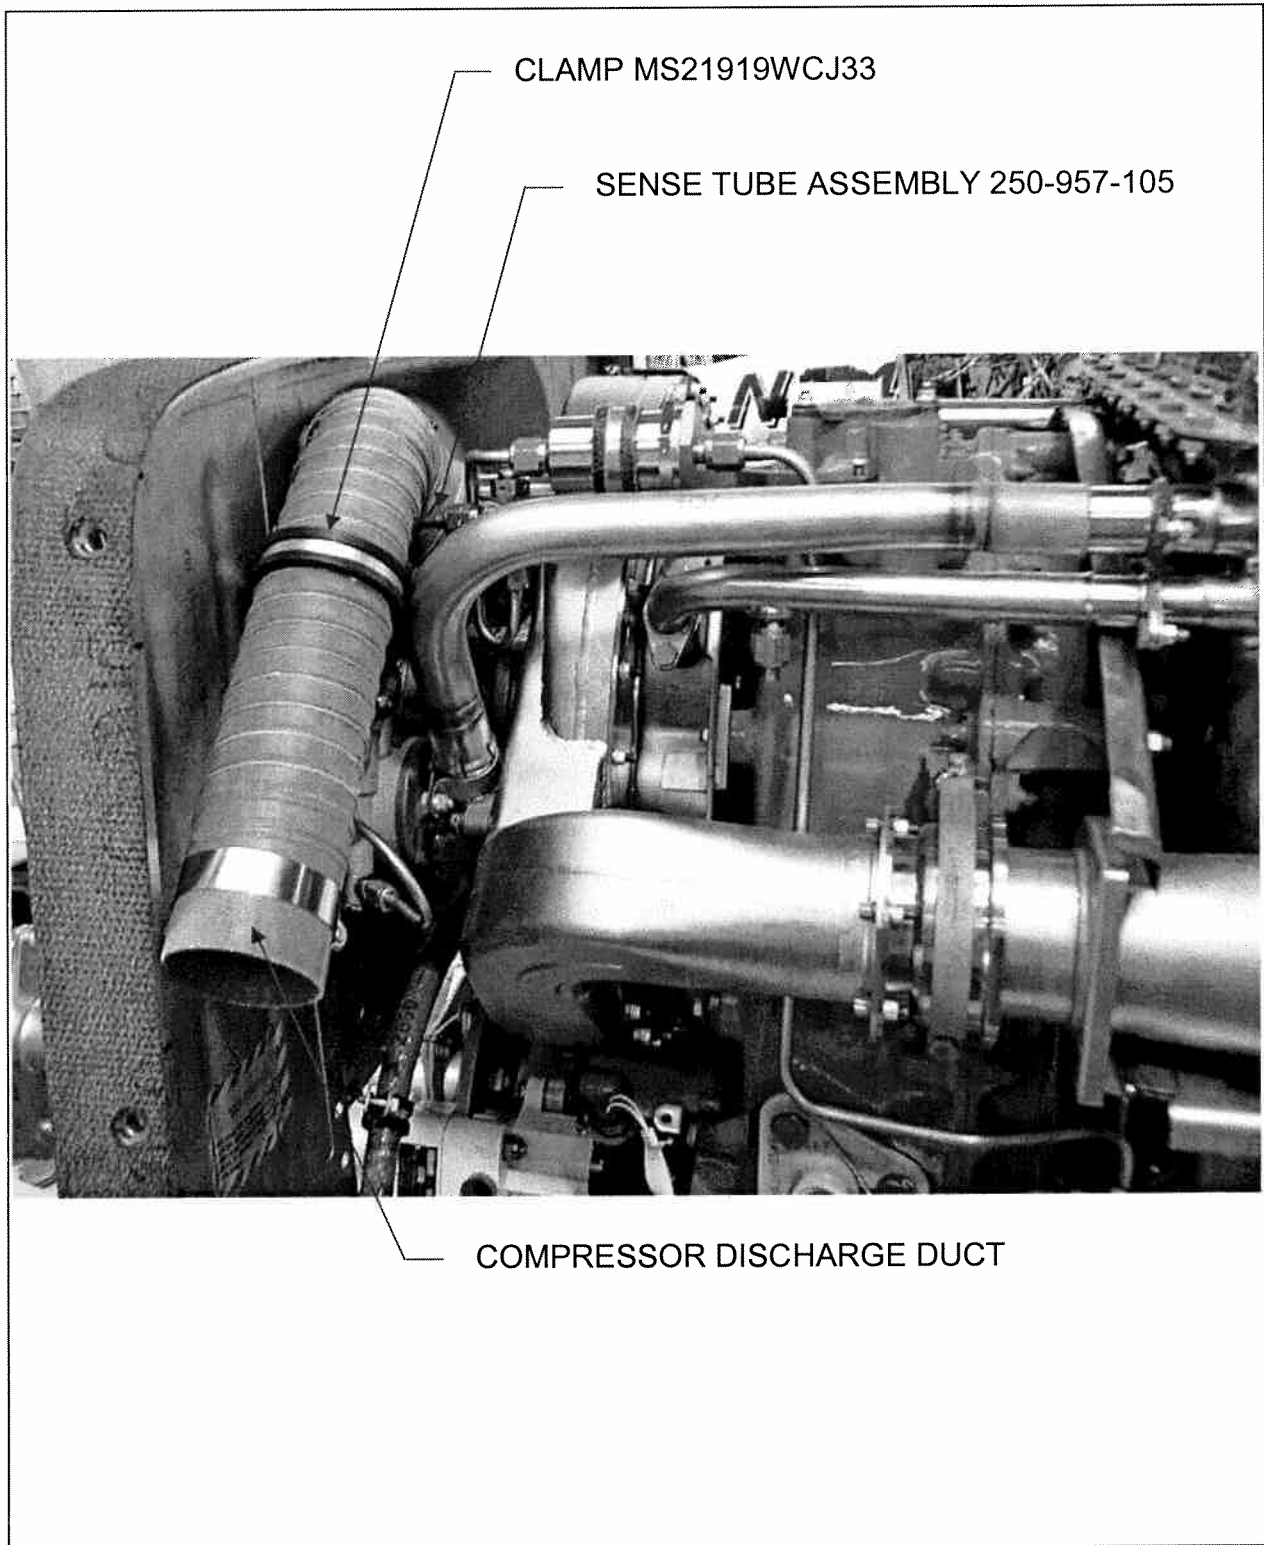

FIGURE 2
7. Position clamp (MS21919WCJ33) around the compressor discharge duct and attach to air induction screen nut plate using bolt (AN3-5A) provided and the washer retained in step 1. Refer to Figure 2. Do not tighten bolt (AN3-5A) at this time.
9. Adjust the compressor discharge duct and clamp (MS21919WCJ33) as necessary so that the compressor discharge duct arches over the Pc Sense Line Assembly (250-957-105) without touching it. Refer to Figure 2.